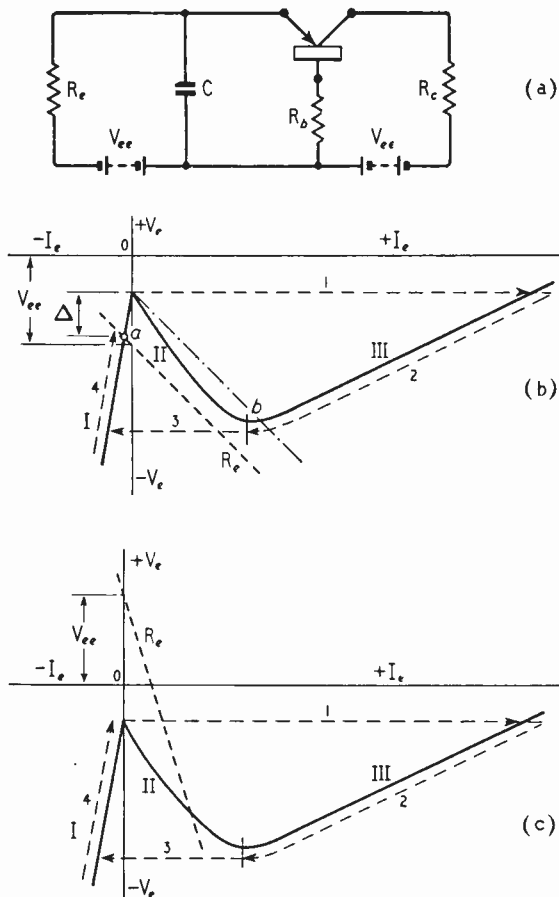
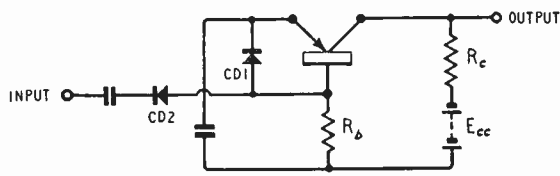
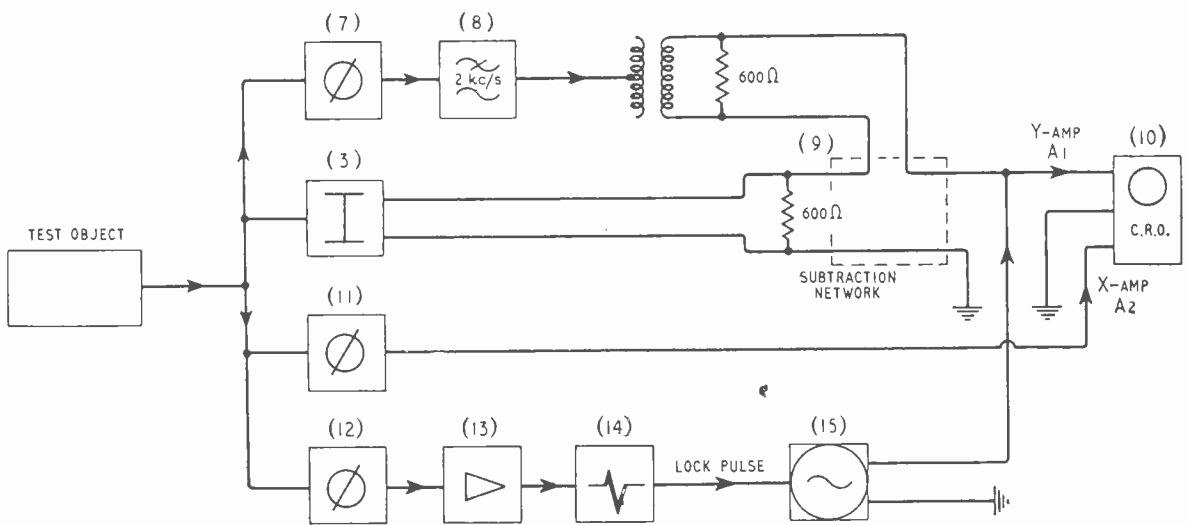

Fig. 6. Monostable and astable characteristics resulting from the addition of capacitor C.
Fig. 10. Addition of diodes to stabilize pulse width and amplitude.
Fig. 4. "Two-terminal" circuit for use when the input to the apparatus under test is inaccessible.
If you compare the characteristic you will see that there are two stable positions, and the system can be triggered from applying a pulse of the right polarity to the emitter. This circuit is equivalent to a resistance-coupled multivibrator. Having this idea of the multivibrator let us see how we can introduce a transistor circuit to convert it to either a "single-shot" multivibrator. A single resistor has been introduced in the circuit shown in Fig. 6. The extra resistance  $R_e$  is fairly low impedance output from the circuit. As shown in Fig. 6(b), the controlling resistor is low enough for the three-point intersection possible. The value of  $V_{ee}$  is such that the operating point is normally stable at  $a$ . Suppose now we put in a voltage  $\Delta$ . The load line is lifted up to the apex of the N-curve, and can then "see" the single stable point. As soon as the system starts to re-set itself to  $b$ , however, the capacitor C presents a short-circuit to the emitter and the operating point jumps along the line 1 to high emitter current. When the intersection with the N-curve is reached, however,  $R_e$  takes control again, and the capacitor starts to discharge along the path 2. By this time, however, the trigger pulse has ended, and when the discharge brings the emitter voltage to the trough, the working point jumps along the short-circuit line 3 to meet region I again. Finally, the emitter voltage runs up along 4 to the point  $a$ , where the system waits for a new trigger.
With a higher value of  $R_e$  and positive bias applied to the emitter we have the conditions shown in Fig. 6(c). This arrangement is unstable, as the only intersection is in region II. The circuit oscillates steadily round the path 1, 2, 3, 4.
Refinements of the simple emitter circuit, the most commonly used form, are directed towards improving the pulse shape. With the simple capacitor circuit the collector current pulse has a drooping top caused by the run down path 2 (see Fig. 6). The capacitor can be replaced by an open-circuited delay network, of the ordinary pulse-forming type. This has two results: the pulse top becomes flat, and the pulse duration no longer depends on the time constant ( $C \times$  emitter resistance), but is fixed by the line. Different samples of transistor give identical pulses. The second refinement is to use diodes in the monostable circuit, so that it takes the form shown in Fig. 10. This circuit is triggered by a negative pulse applied to the base. Once the trigger action starts, the diode CD2 cuts off the input terminal so that it has no further control over the action. As a
*Acknowledgment.*—Figs 3 to 9 are based on Figs. 3, 4, 6, 7, 20, 9 and 11 respectively of "Transistors in Switching Circuits" by A. E. Anderson and Fig. 10 on Fig. 16(a) of "Transistor Trigger Circuits" by A. W. Lo. Both papers appeared in *Proc. I.R.E.*, Vol. 40, No. 11, Nov. 1952.
The diagnosis is made by examining an oscilloscope trace which represents all the defects of the apparatus which is being tested. By comparing the outline of this picture with certain standard shapes, examples of which are given here, the various sources of distortion can be recognized. For example, typical overload conditions can be recognized at a glance (Figs. 10 and 11). In other photographs the distortion conditions have been artificially exaggerated to bring out the characteristic features.
The arrangement shown in Fig. 3 is used when both the pure input signal and the distorted output signal from the test object are available, but if this is not so, and only the output can be obtained, the arrangement of Fig. 4 is employed.
The input/output curve of a push-pull stage is like Fig. 1 in the upper part, but in the lower part lies below the dotted line. As a result the difference diagram (see Fig. 6) droops downwards on the left-hand side and tips up on the right.
The distortion component present in Figs. 2 and 5(a) is almost pure second harmonic, shown by the two positive maxima in the difference signal. Fig. 6, however, shows nearly pure third harmonic because there are three positive maxima in the trace on the tube; one on the extreme right, one as the fundamental approaches negative maximum, and one as it returns to the centre again. In this photograph the "go" and "return" traces are, of course, superimposed. The vertical width of the diagram is due to hum in the amplifier. In spite of this the upper and lower edges retain their characteristic S-shape.
The remaining diagrams were obtained with the circuit of Fig. 4. Figs. 10 and 11 show the "spike" characteristic of a system driven beyond its designed limits. Figs. 12(a) and (b) show very clearly the sharp origin distortion produced by a diode. The loop in Fig. 12(b) generally appears when severe overload is associated with a large transient phase shift.